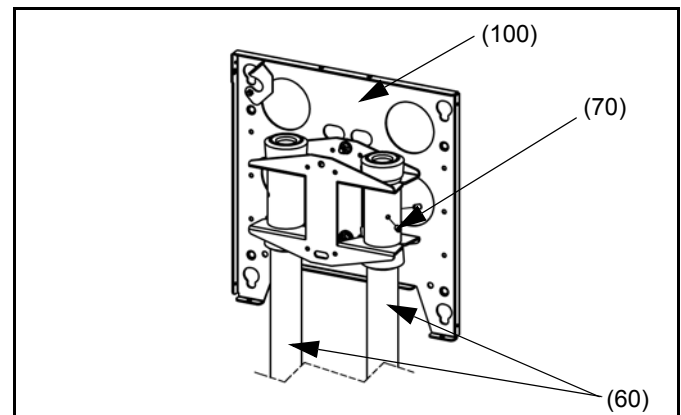

Figure 5: Mount Faceplate
2. Secure tubes (60) using four 5/16-18 X 3/8 socket head set screws (70), (see figure 5).